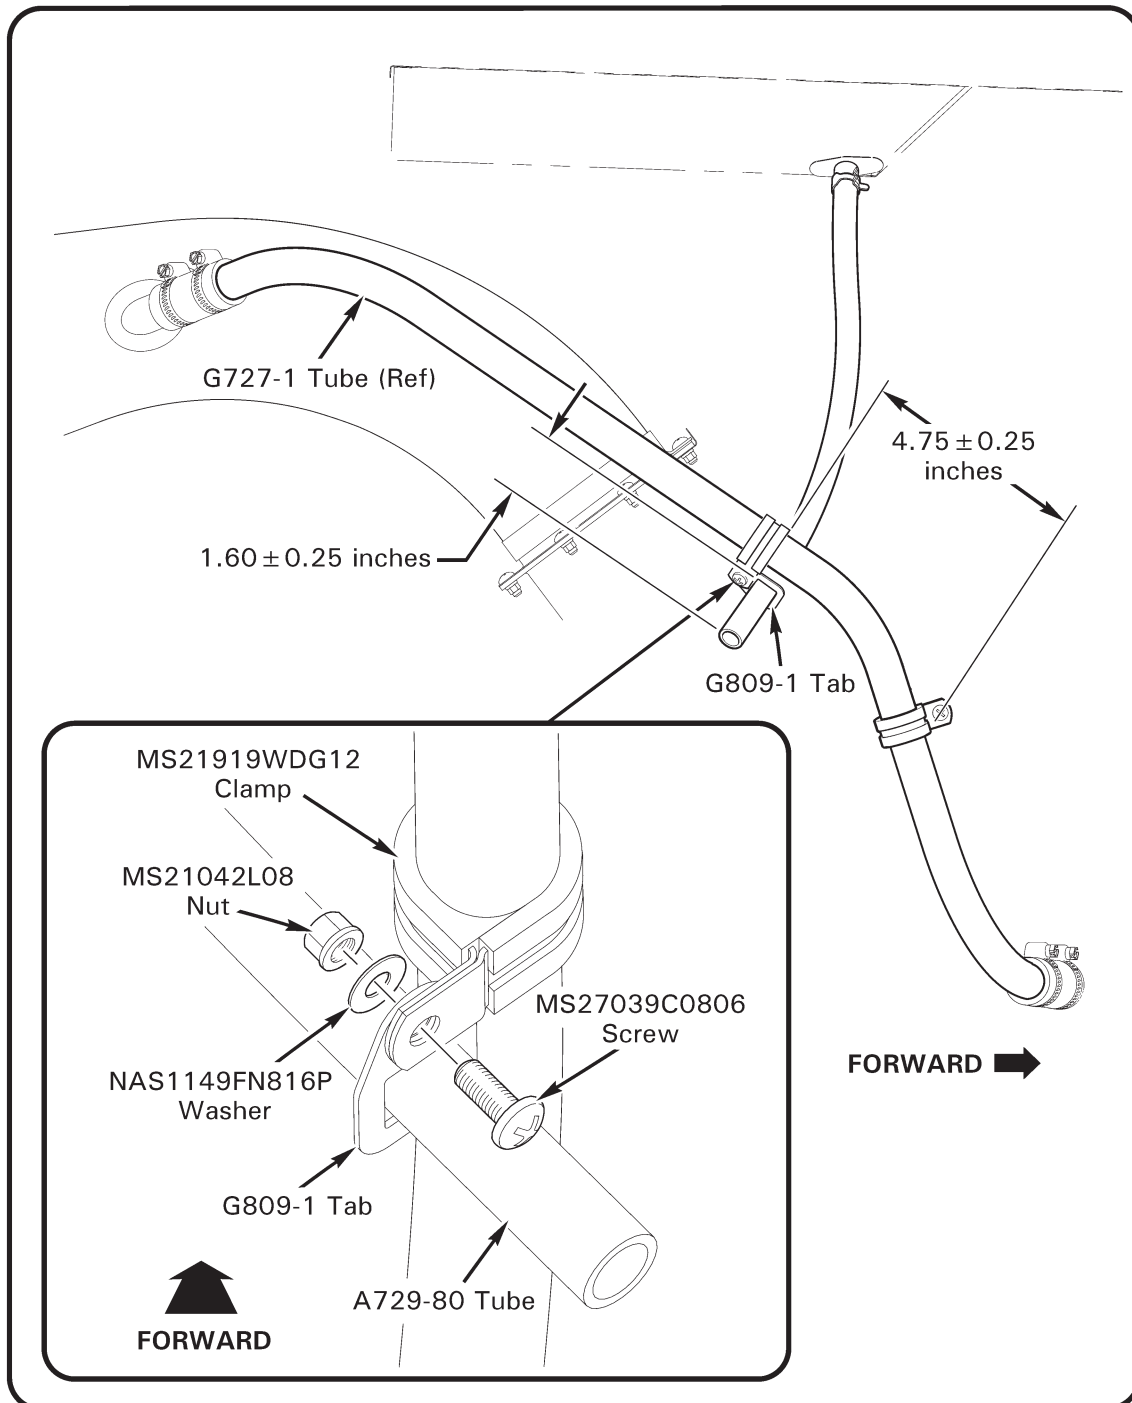

FIGURE 3 G727-1 tube with G809-1 tab installation
8. Refer to Figure 3. Slide G809-1 tab on A729-80 tube and position as shown. Position MS21919WCH12 clamp over G727-1 tube weldment 4.75 ± 0.25 inches from existing clamp. Install clamp to tab using (1) MS27039C0806 screw, (1) NAS1149FN816P washer, and (1) MS21042L08 nut; tighten to secure, ensuring A729-80 tube is positioned away from engine as shown (approximately 45° angle).